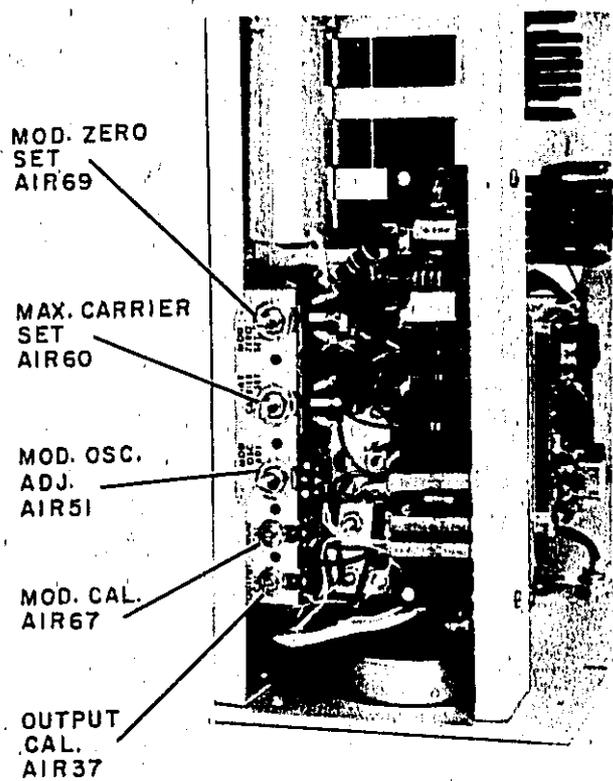

Figure 5-8. Modulation Deck Adjustment Locations
- e. Adjust MOD. OSC. ADJ. potentiometer A1R51 until VTVM indicates 3.2 volts. See Figure 5-8 for adjustment location.
g. Set Signal Generator to range and frequency having lowest output voltage, typically 1.76 MHz. Set MODULATION SELECTOR switch to CW, adjust MAX. CARRIER SET potentiometer A1R60 for 1.05 volt RF output on VTVM. See Figure 5-8 for adjustment location.
h. Switch MODULATION SELECTOR from CW to EXT. AC while noting output-voltage change on VTVM. There should be no change in voltage. If necessary adjust MOD. ZERO SET potentiometer A1R69 until there is no change of output when MODULATION SELECTOR is switched. See Figure 5-8 for adjustment location. Turn MODULATION AMPLITUDE control; output should not change. If necessary, readjust potentiometer A1R69.
d. If PERCENT MODULATION meter indication is not within limits, adjust MOD. CAL. potentiometer A1R67 until meter indicates 50. See Figure 5-8 for adjustment location.
h. Set the OUTPUT VOLTS meter to read 0.9 volt by adjusting OUTPUT CAL. potentiometer A1R37. See Figure 5-8 for adjustment location.